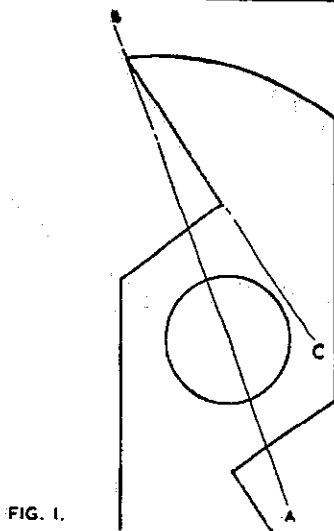

FIG. 1.
This method involves grinding the cutter on an arbor between centres. The machine should be set to grind the face of the cutter so that angle ABC, in Fig. 1 is the same after grinding as it was originally.
Before regrinding the cutters by this method ensure that the check chart supplied with the cutters is to hand. To check the angle of the cutters, place the new ground face, i.e. line BC, in Fig. 1, against that of the check chart and when the angle is correct the bore of the cutter should correspond to that of the check chart. This ensures that the correct angle is maintained at all time.
1. A slight variation in the angle ABC, in Fig. 1 on opposite wings of the cutter is not too important, but for the best results avoid having the point "B" in Fig. 1 or its opposite on a different radius. This would cause one cutting edge to do all the cutting and would make the cutter out of balance and cause vibration.